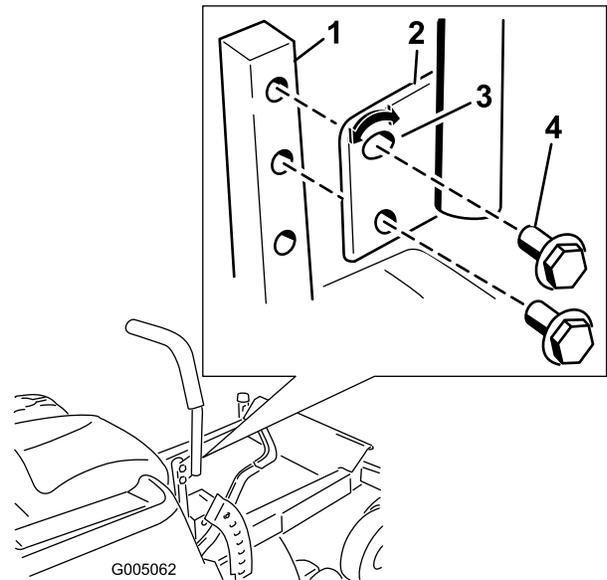

Figure 18
- Remove the 2 bolts holding the control lever to the control arm shaft (Figure 18).
- Move the control lever to the next set of holes. Secure the lever with the 2 bolts (Figure 18).
- Loosen the lower bolt just enough to pivot the control lever fore or aft (Figure 18). Tighten both bolts to secure the control in the new position.